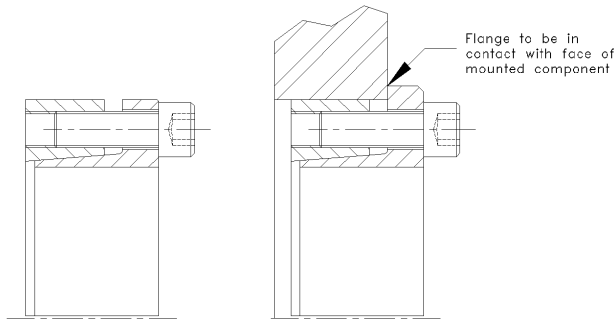

Figure 1
3. Insert CLIMAX Series C123 or C133 into component bore, then transfer screws used to separate collars back to their original position. Note that for Series C133 the flange must be in contact with the face of the mounted component (see Figure 1).